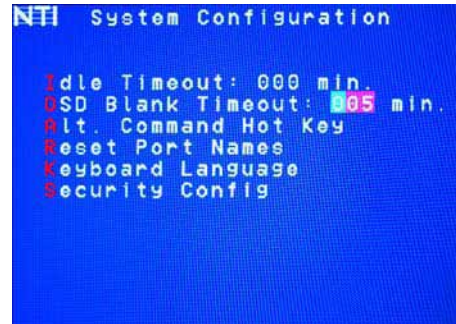

Figure 37- Change the value of OSD Blank Timeout
1. press <O> from the System Configuration menu to display the edit field around the value (see Figure 37)